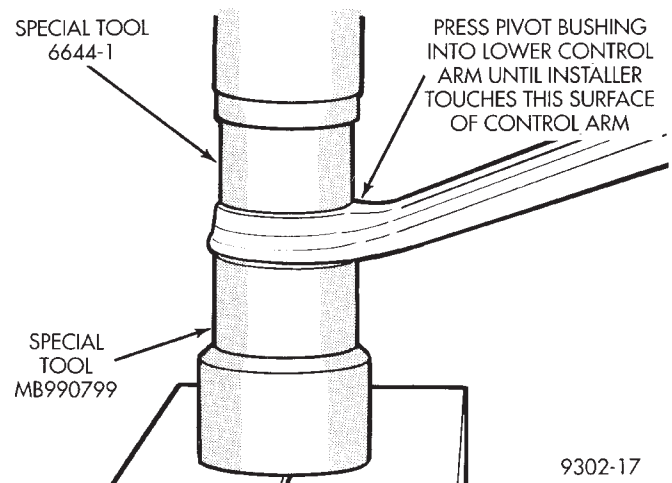

Fig. 3 Pivot Bushing Installed In Lower Control Arm
(3) Press lower control arm pivot bushing into lower control arm until Installer, Special Tool 6644-1 squarely bottoms against surface of lower control arm (Fig. 3). **When Installer, Special Tool, 6644-1 squarely touches surface of control arm stop installing bushing.** When Installer, Special Tool 6644-1 squarely bottoms on control arm, bushing is installed to the correct position in control arm.
(4) Install tension strut into tension strut bushing on the lower control arm assembly. Position tension